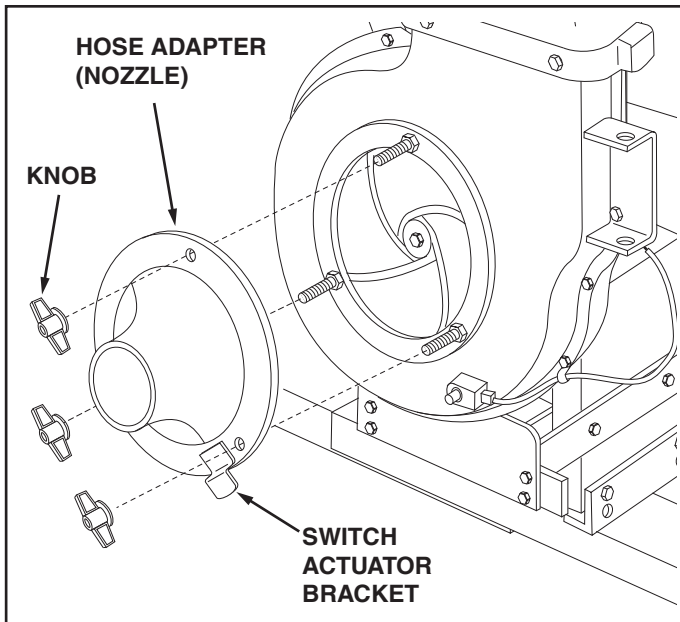

FIGURE 18
- Assemble the hose adapter (nozzle) to the front of the impeller housing and secure with the three knobs. Make sure that the switch actuator bracket contacts the switch on the housing. See figure 18.